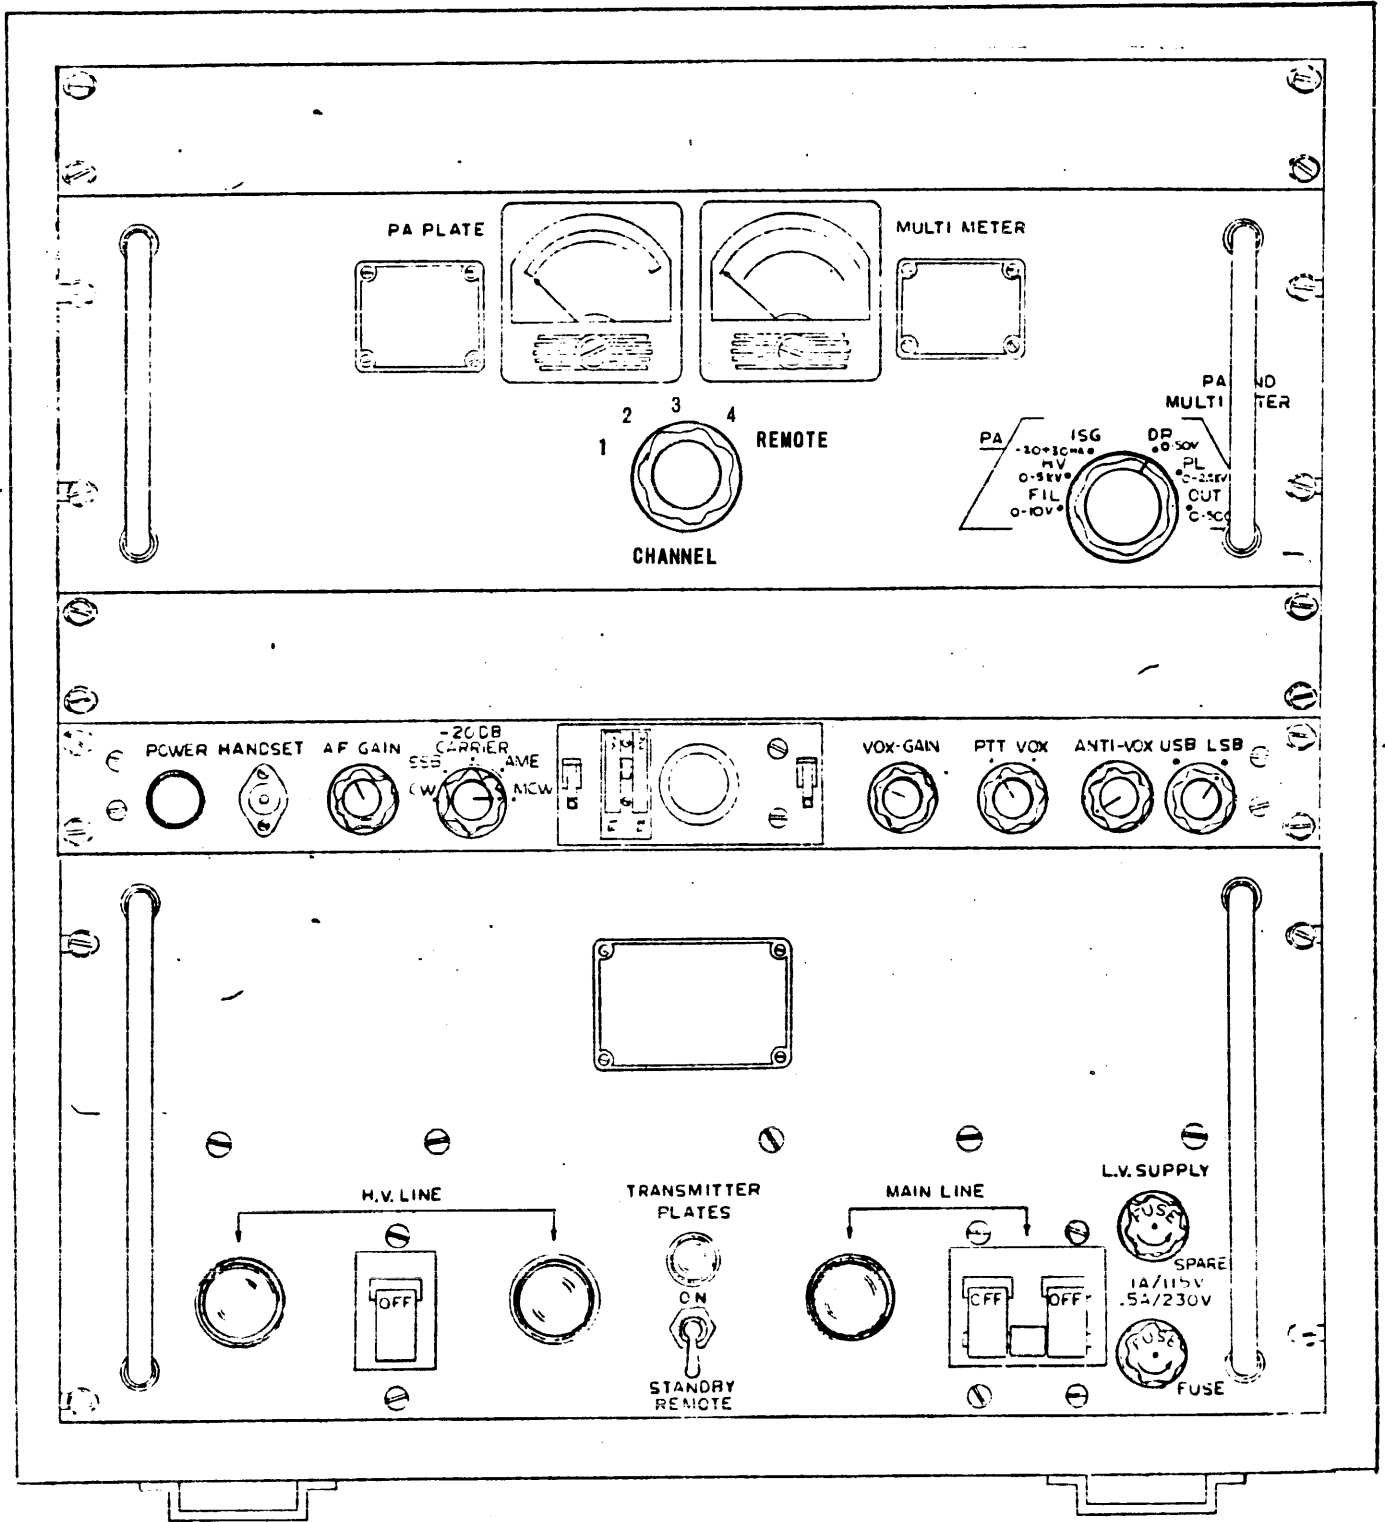

Figure 1-1. GPT-500-4 SYSTEM
The GPT-500-4 (figure 1-1) is a four channel, fixed frequency low power transmitter system capable of providing 500 watts peak envelope power. The system consists of the model PSP-500 Power Supply, RFE-2-4 Linear Power Amplifier and the STE-5A Sideband Strip Exciter. This system operates in the frequency range of 2 to 32 MHz. The system is capable of operating on the following modes: CW, MCW, AME, SSB, DSB and ISB. The system may be remotely controlled to provide the following operational functions: PA plates on-off, CW key, PTT (press to talk), and a selection of PTT modes between A3J (fully suppressed carrier), A3A (-20 db suppressed carrier) and A3H (full carrier).
The GPT-500-4 can be mounted into a standard 19 inch equipment cabinet or console. Determine installation location and mount equipment cabinet or console (either base or shock mount as desired). Use the equipment mounting hardware supplied as Loose Items and mount the modular units as shown in figure 1-1. Install the heaviest unit (PSP-500) first to avoid offsetting the center of gravity of the equipment cabinet. For specific mechanical installation refer to the modular manuals provided.
b. Refer to figures 1-1 and 2-1 for the controls and indicators put together as a system.